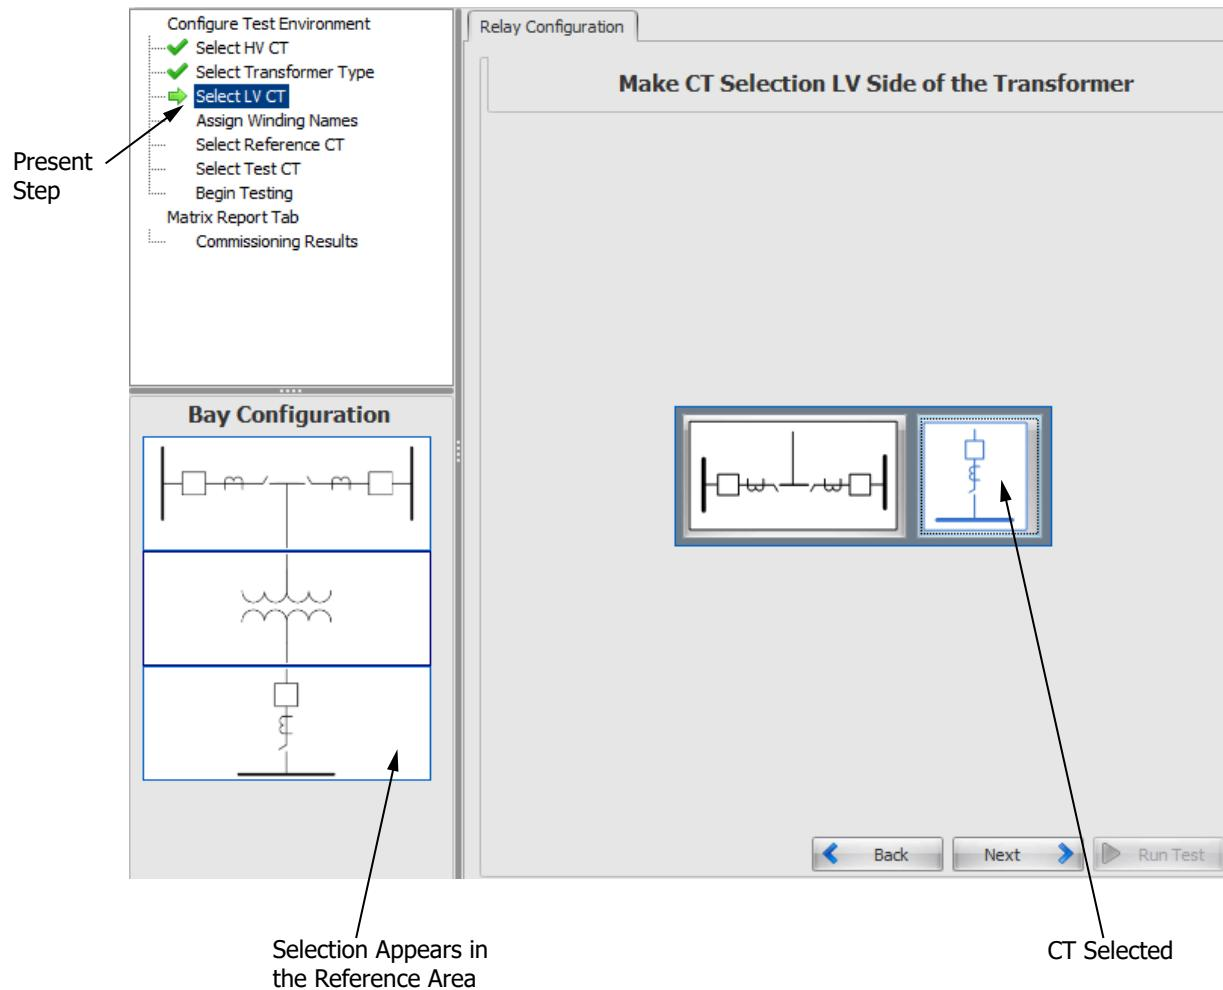

Figure 7.29 LV CT Selection
Step 5. Click the **Next** button, and select the LV CT configuration as in *Figure 7.29*. This completes the configuration of the transformer bay.